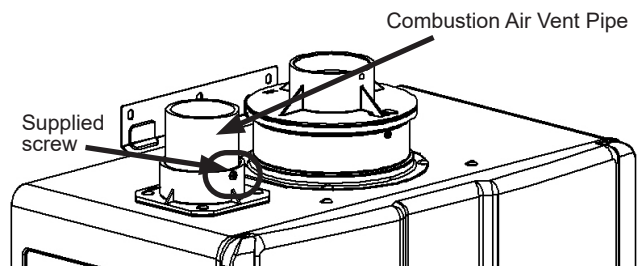

Figure 44
3. Install the combustion air vent pipe. Ensure it is properly seated. Secure the combustion air vent pipe to the combustion air vent connection with the supplied screw (Figure 44).